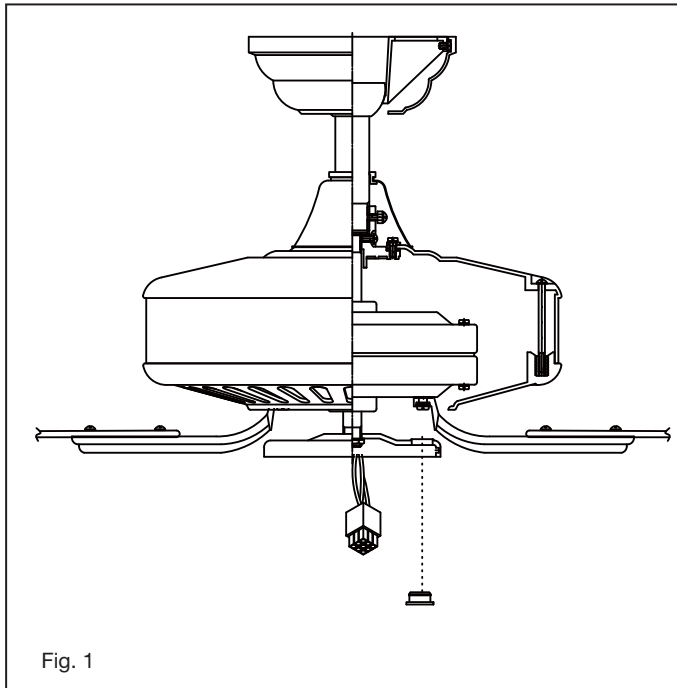

Fig. 1
- 1 Remove ball from downrod by loosening set screw in the side of the ball. Slide ball down and remove ball pin; remove ball. (Fig. 1)
- 1 Carefully place the rubber cap to mounting plate (Fig. 1)